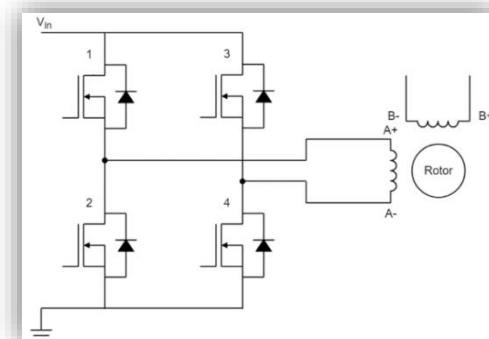

Figure 3: example of coil connected to H-Bridge circuit.
- We connect these 4 wires to the driver I298n how has two built-in H-Bridge circuits, each coil connected to an H-Bridge circuit. See in **Figure 3**.